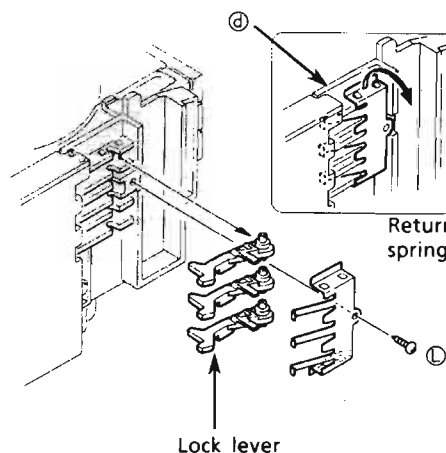
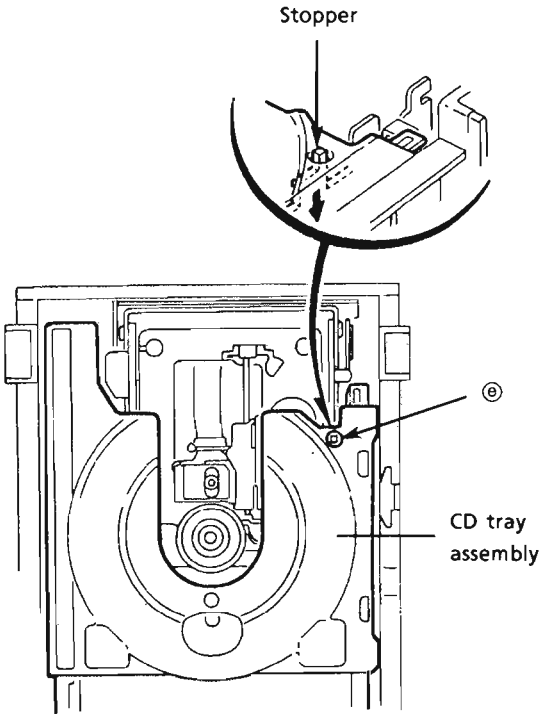

Fig.30
Fig. 31
7. Remove a screw ① which secures the return spring and lock levers from the chassis ass'y.(See Fig. 30.)
8. Remove 2 palls④ which slightly secure the return spring to remove it.
10. Check that the lifter unit stopper is inserted into hole ⑥ located on CD tray ass'y. (See Fig. 31.)